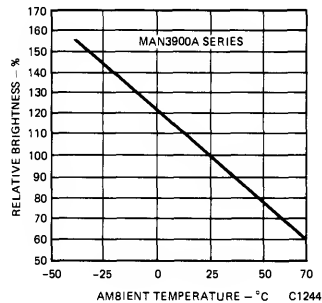

Fig. 3. Luminous Intensity vs. Temperature
2. The curve in Fig. 3 is normalized to the brightness at 25°C to indicate the relative luminous intensity over the operating temperature range.